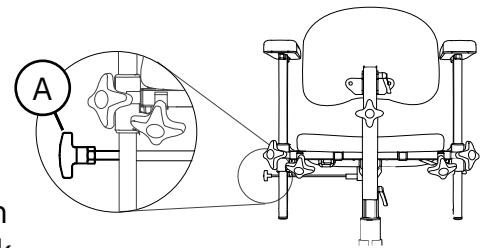

Figure 5.19. Seat rotation control.
The rotation control (A) is placed under the seat on the right side, see Figure 5.19.